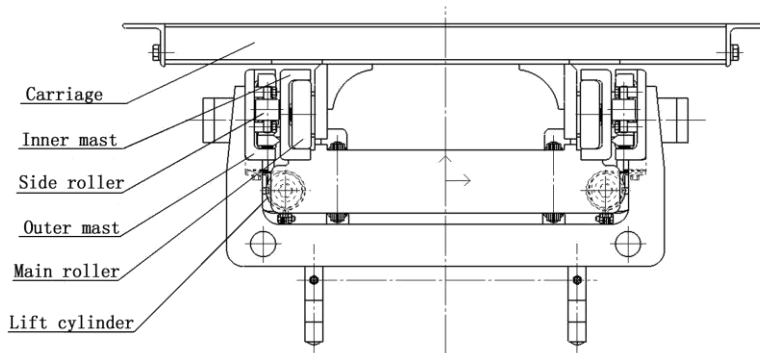

Fig.8-3 Roller position
8.1.4 Roller position (Fig.8.3)